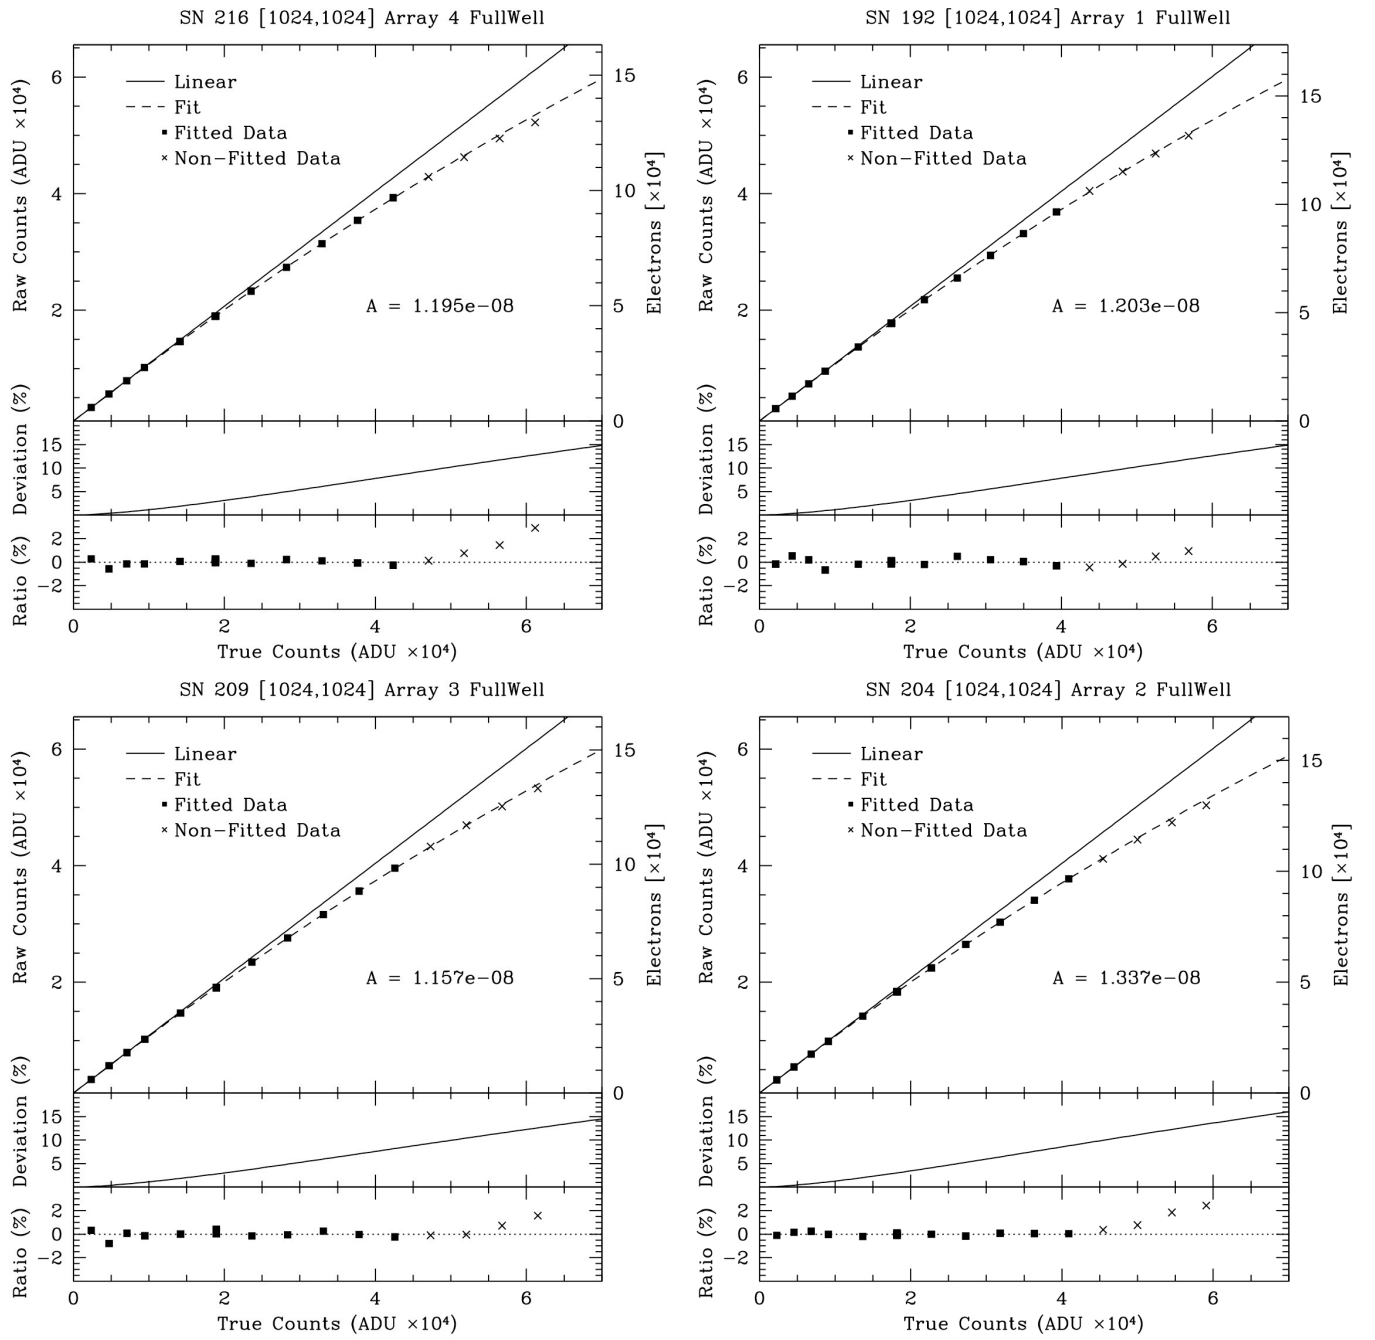

Figure 2.2 FullWell Mode linearity curves for the FourStar arrays
**Linearity and saturation:** The raw data are linearity corrected, pixel by pixel, using a non-linear correction in the form:  $Y_T = Y_R(1 + A(Y_R)^{1.5})$ , where  $Y_T$  are the true counts,  $Y_R$  are the raw counts and  $[A]$  is the non-linear coefficient. The linearity correction can be seen for each array in Figure 2.2 which shows the recovery of linearity to better than 0.5%. The true well depth reached is a function of the raw counts, fowler number and exposure time; see 6.14. This is important since sky flats (and sources) can saturate at 25,000ADU in 1.456s in a normal CDS read (Fowler=1). The flat field data can be retrieved at: <http://obs.carnegiescience.edu/instrumentation/FourStar/calibration.html>